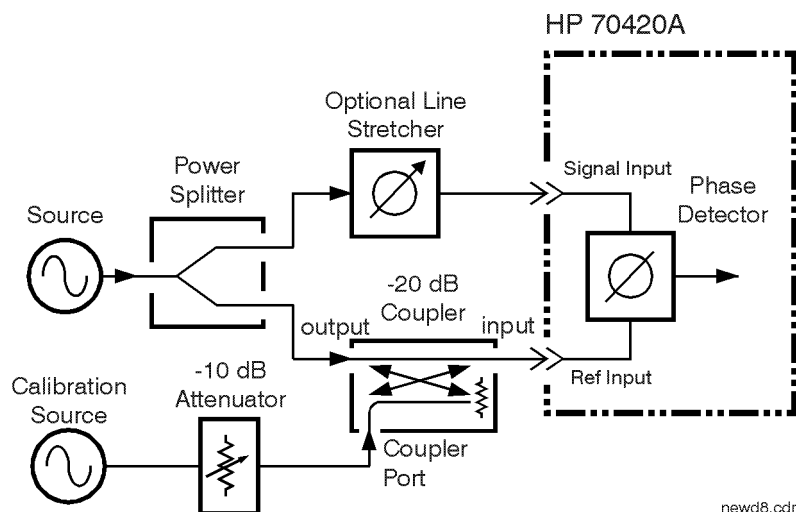

Figure 8-17 Carrier-to-spur Ratio of Modulated Signal
- 3 Measure the carrier-to-single-sided-spur ratio out of the coupler at the phase detector's modulated port and the offset frequency with the RF spectrum analyzer (Figure 8-17). The RF calibration source should be adjusted such that the sidebands are between -30 and -60 dB below the carrier and the frequency offset of the spur between 10 Hz and 50 MHz.